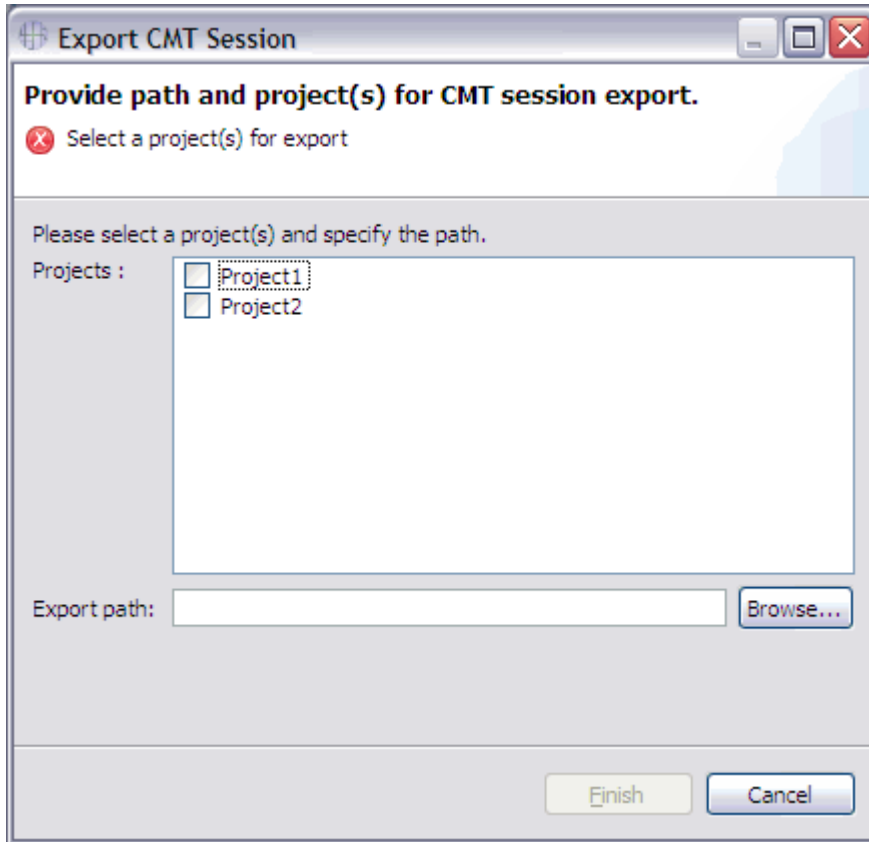

Figure 64. Export Session window
1. Click **File > Export Session**. The tool opens the Export Session window. Figure 64 on page 49 shows this window.